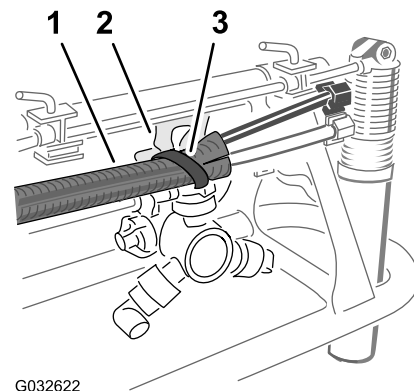

Figure 15
5. Secure the tube assembly to the hole in the nozzle support with a cable tie as shown in Figure 15.